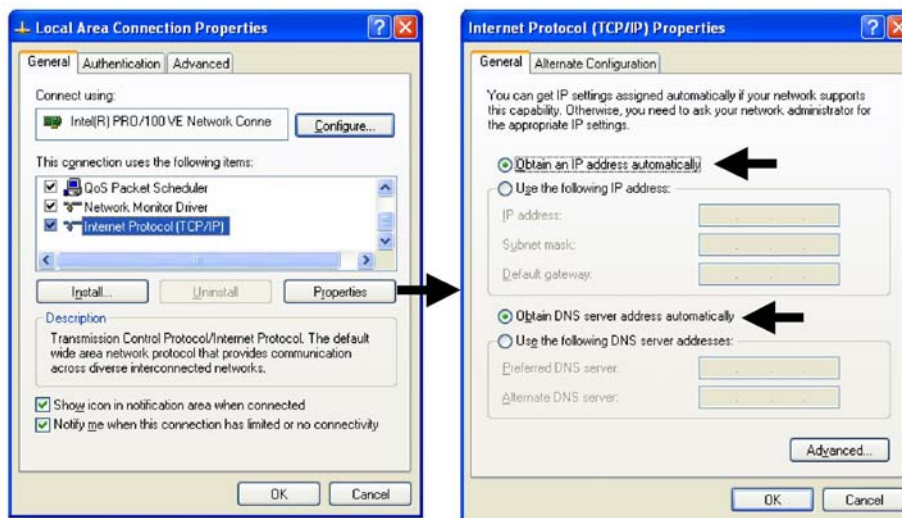

Figure 9. Displaying the Internet Properties (TCP/IP) Properties window
2. Double-click on *Local Area Connection* and click on **Properties** to open the *Internet Protocol (TCP/IP) Properties* window (see figure 9).